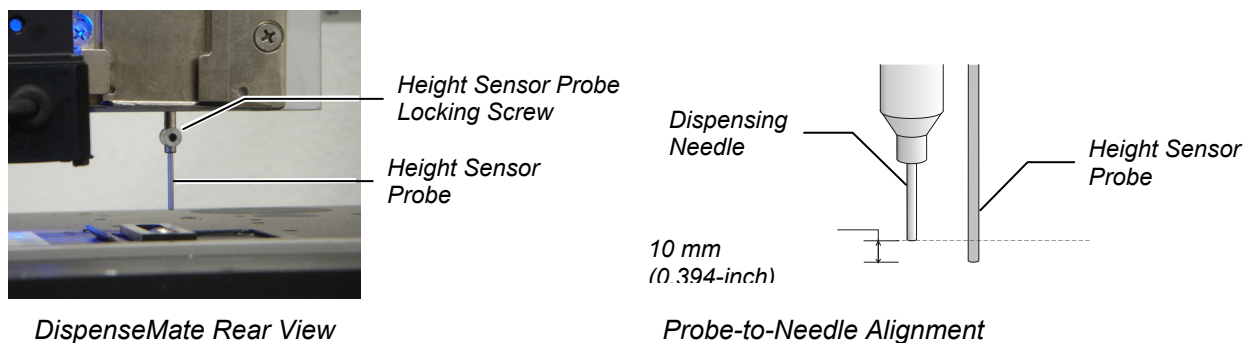

Figure 3-10 Adjusting the Height Sensor Probe
4. Using a 1.5 mm hex key, loosen the height sensor probe locking screw at the back of the Z-axis plate (Figure 3-10).
1. Verify that the facility air is connected to the main air pressure regulator inlet (Figure 3-10).